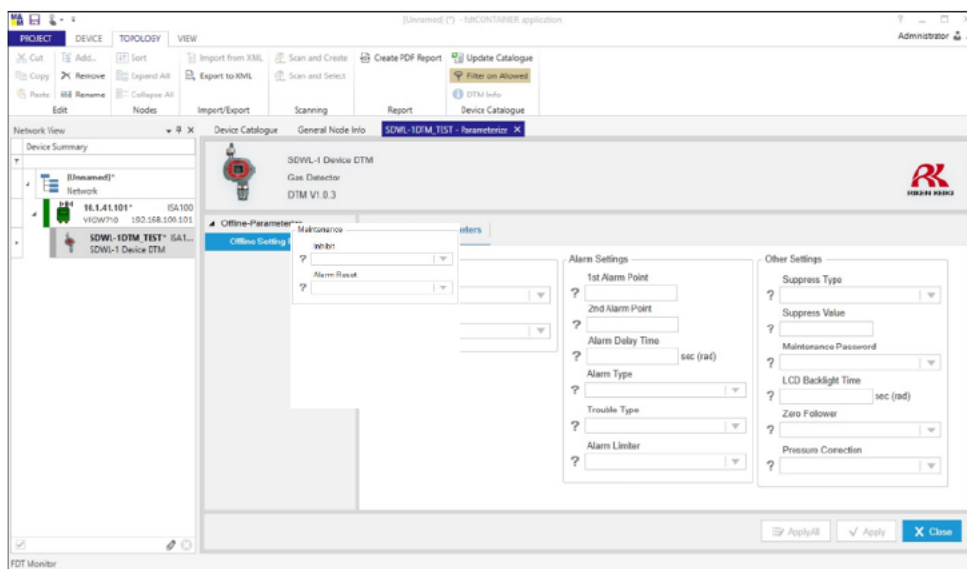

Figure 5-54 Offline Setting Parameters window
- ③ The window shown below is displayed to allow offline parameter configuration. (Figure 5-54)